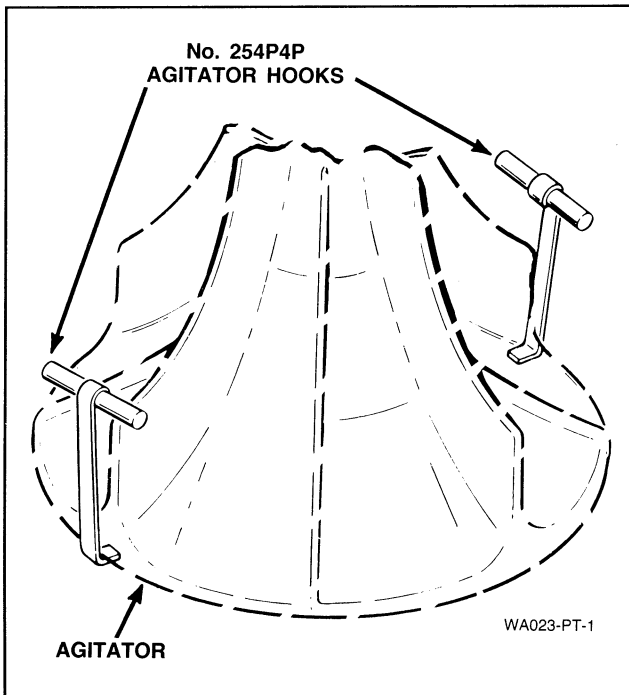

Figure 12
- To remove the agitator by hand, place two agitator hooks, No. 254P4P, under the bottom edge of the agitator, *Figure 12*.